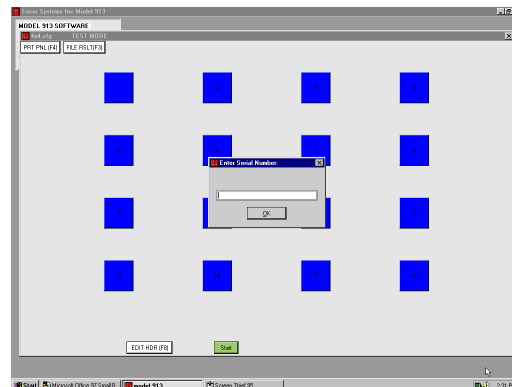

Figure 4
1. **Serial Number Auto Request:** When enabled, before each keypad is tested a request for *Enter Serial Number* will be displayed (Figure 4). An operator may type a serial number, or a wedge bar code reader may be used.